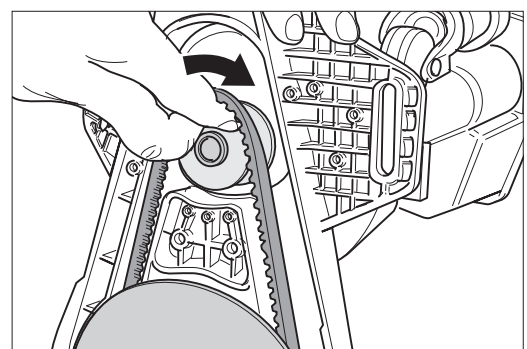

Fig. 38 Insert the V-belt into the motor belt pulley.
- 16 Then place the attachment on the machine by inserting the V-belt into the motor belt pulley first and then the attachment on the machine (Fig. 38).